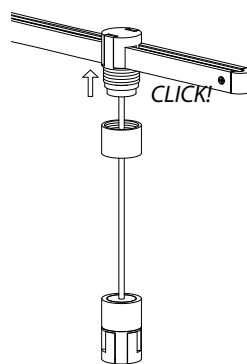

Fig. 10
2. Insert the **Hanger Clip** through the Hanger Hub and press up on the Hanger clip until Hanger Clip clicks into place. (Fig. 10)